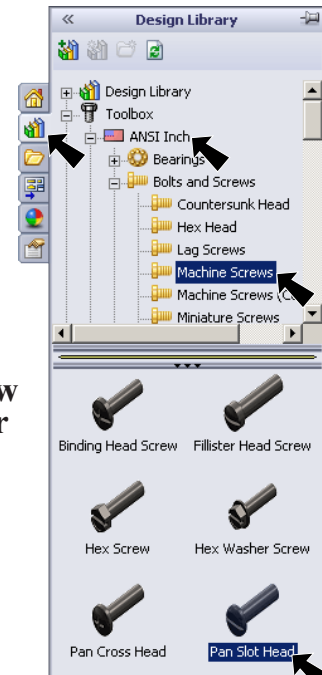
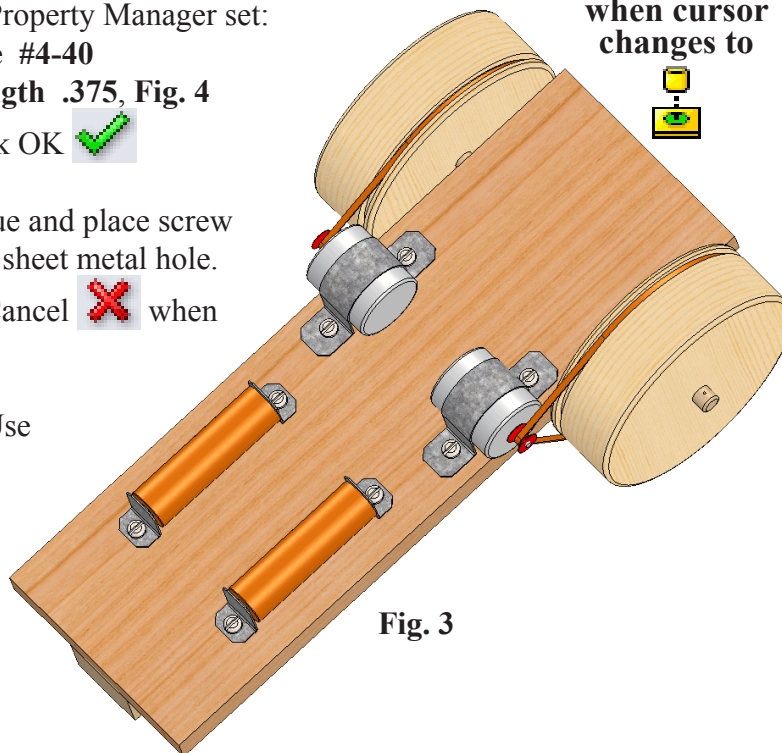

Fig. 2
Fig. 3
- Step 1. Click the **Design Library** tab  in the Task Pane, **Fig. 2**.
- Step 3. In the lower pane, click the **Pan Slot Head** screw, **Fig. 2**. Drag screw towards a hole in a sheet metal part. Move the tip of your cursor to the edge of a hole, **Fig. 3**. When the screw snaps into place and the pointer (cursor) changes to  concentric and coincident mate, release the screw.